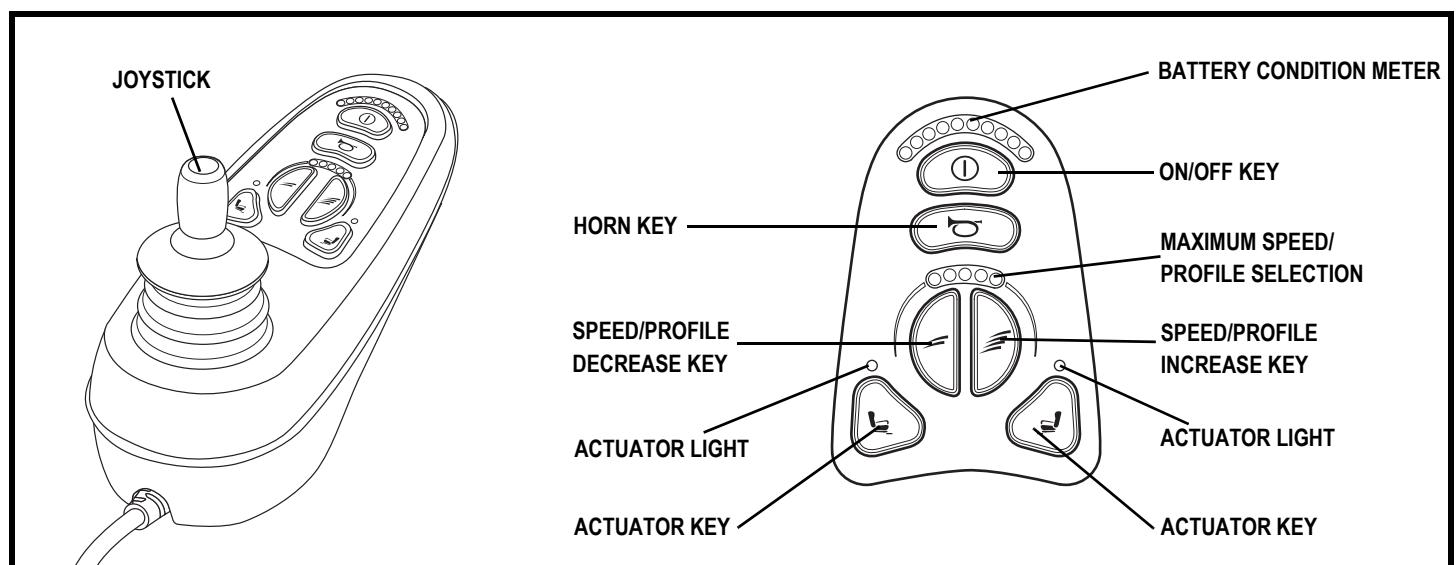

Figure 11. VR2 6-key Controller and Keypad
1. Push the on/off key to power on the chair and the controller. **See figure 11.**
2. Push the actuator select key to select actuator mode. The left actuator light will illuminate. **See figure 11.** While the left actuator light is illuminated, use the switch box as a toggle to select power tilt or power recline.
5. Push the on/off key to return to drive mode. **See figure 11.**